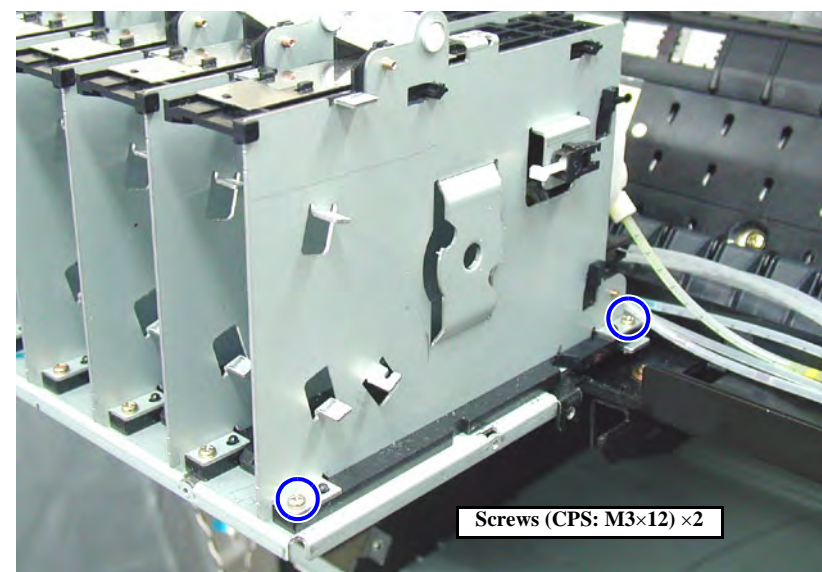

Figure 4-68. Ink Holder ASSY Removal
6. Take out the two screws (CPS: M3×12) holding the Ink Holder ASSY to the I/H Base, then remove the Ink Holder ASSY. (See Figure 4-68)